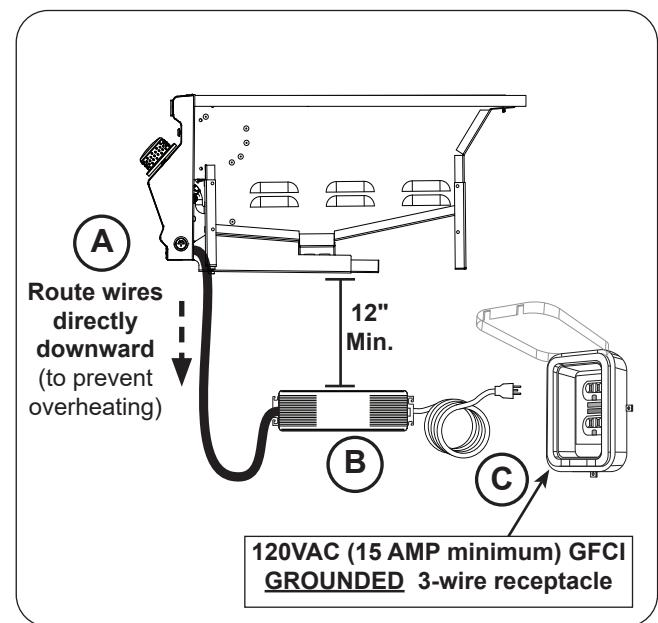

Fig. 30-1 Power supply installation
1. Route the wire harness extension below the control panel and directly downward. This will prevent overheating. **DO NOT** route the wire extension below the griddle. See Fig. 30-1, A.
2. Mount the power supply to the inside of the enclosure using appropriate hardware for your enclosure. See Fig. 30-1, B. **The power supply MUST BE:**
3. Connect the cord coming from the power supply to a **120VAC (15 AMP minimum) GFCI GROUNDED three-wire receptacle** (see Fig. 30-1, C). The GFCI receptacle must be a **WEATHER-PROOF IN-USE COVERED RECEPTACLE**.